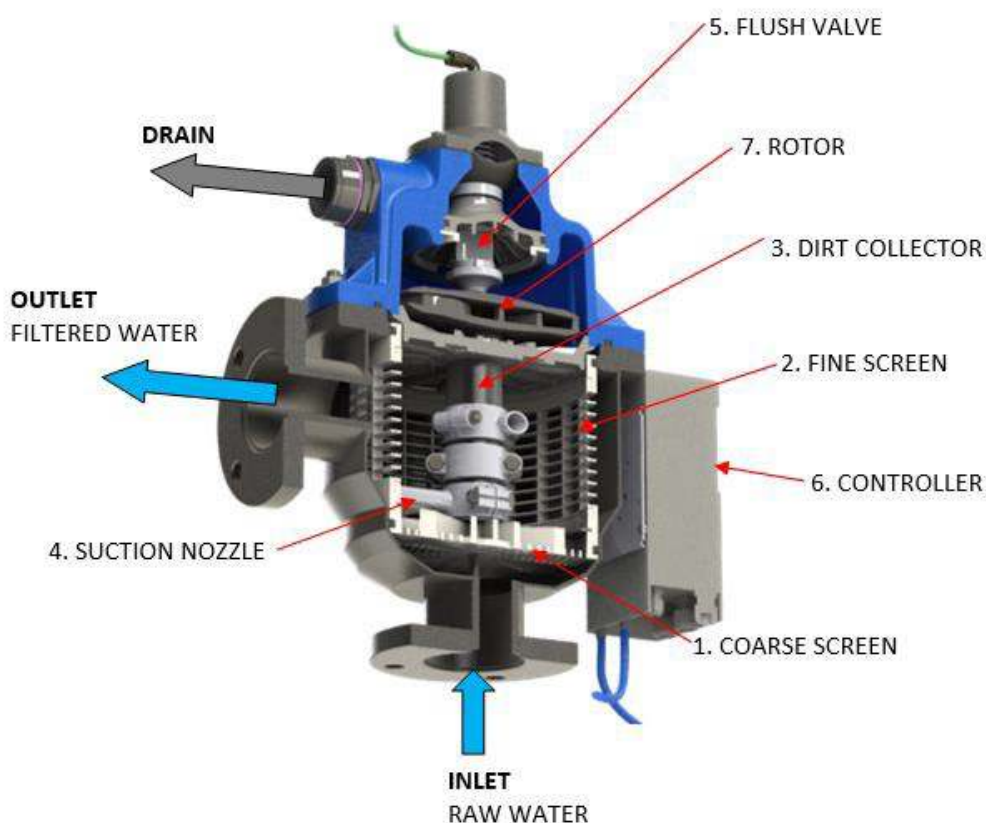

Figure 1 Filter Components
3. Please see Figure 1 below indicating the main filter components